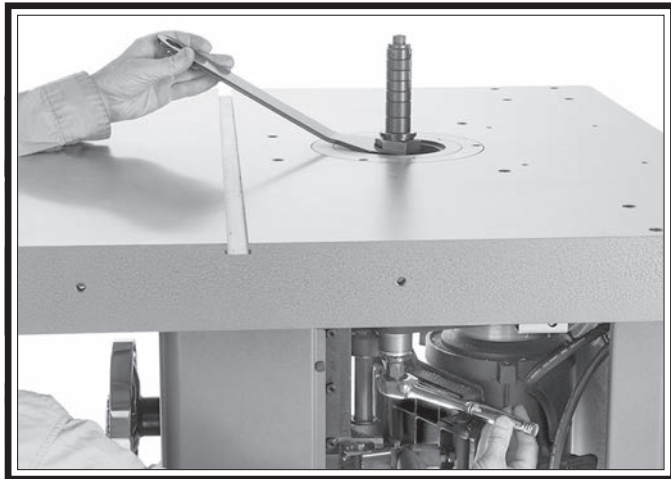

Figure 21. Tightening drawbar nut (guard/fence assembly removed for clarity).
8. Secure spindle nut with spindle wrench and tighten drawbar nut (see **Figure 21**). **DO NOT** use excessive force.